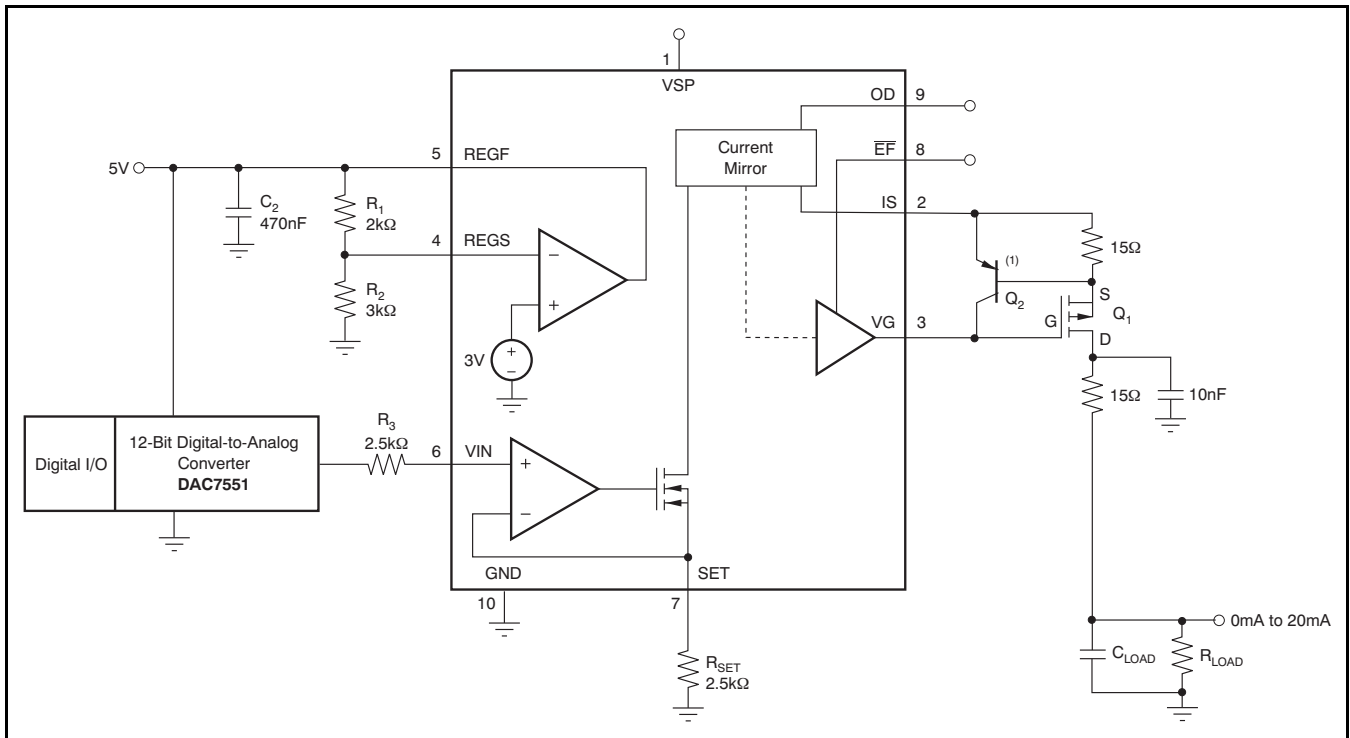

Figure 46. Current Using 0V to 5V Input from a 12-Bit Digital-to-Analog Converter DAC7551
- Corrected wiring error in Figure 46 19